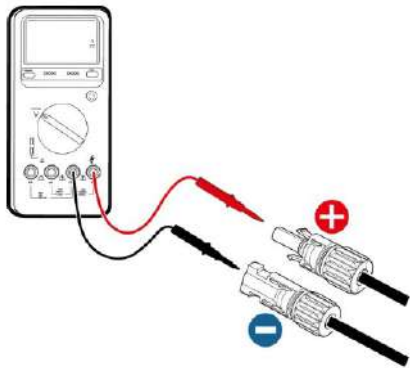

Figure 4.14 DC input voltage measuring
- (3) After the DC connector is connected, use a multimeter to measure the voltage of the DC input string, verify the polarity of the DC input cable, and ensure that the voltage of each string is within the allowable range of the inverter, as shown in Figure 4.14.